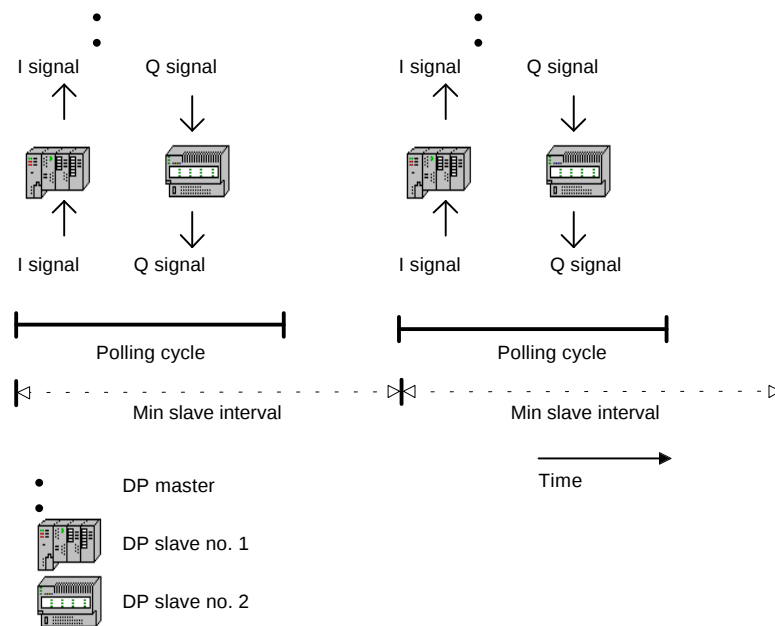

Fig. 3.4: Min Slave Interval - Without Cyclic Control Frame
- If no cyclic control frames are configured, the time is used as shown in Fig. 3.4.